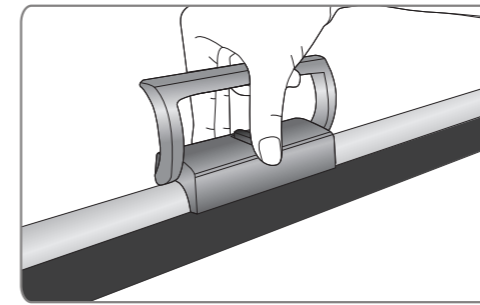
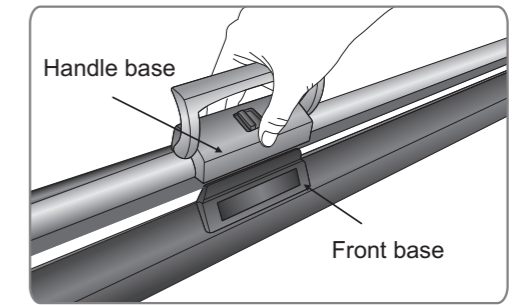
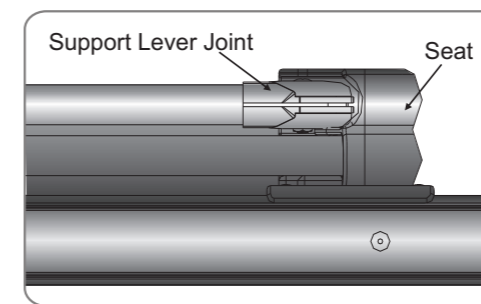
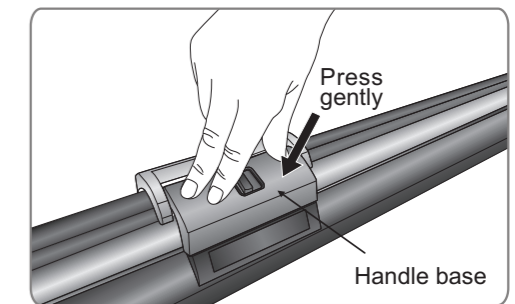

Figure 12
Figure 13
Figure 14
Figure 15
2. Hold the handle and press it down slowly (figure 12). According to figure 13, Please stay the support levers into the seats for locking easily (figure 14). When you can hear “pa”, it means that the screen is locked (figure 15).